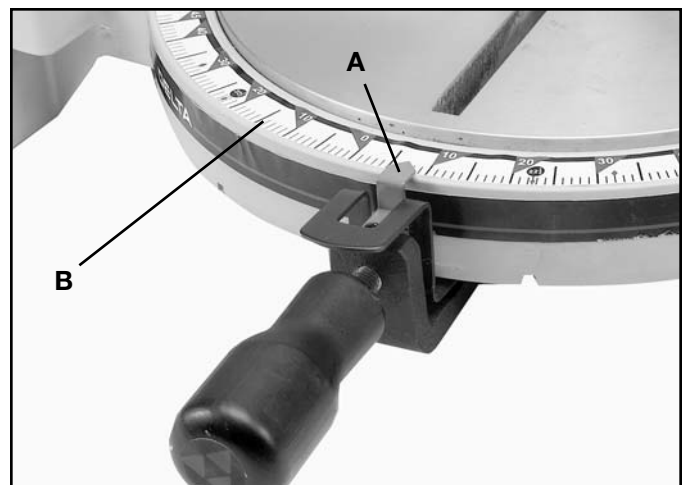

Fig. 15
A pointer (A) Fig. 15, is supplied which indicates the actual angle of cut. Each line on the scale (B) represents 1/2 degree. In effect, when the pointer is moved from one line to the next on the scale, the angle of cut is changed by 1/2 degree.